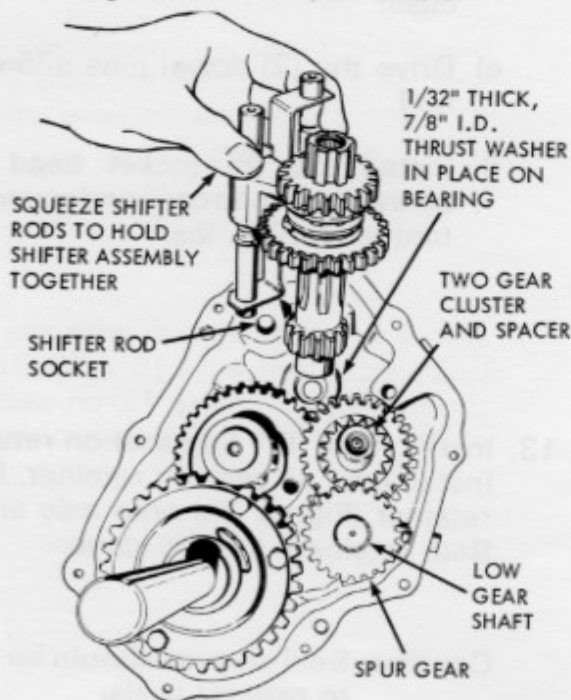

Figure 75 - Spur Gear and Low Speed Shaft
8. Install splined 22-T spur gear (Figure 75) onto low gear idler shaft. Do not install a thrust washer on the exposed end.
9. Center a $1/32'' \times 7/8''$ I.D. thrust washer on shifter shaft bearing (Figure 75) in cover.
NOTE: Install the shifter assembly (Figure 75) with the needle bearing end of the shifter shaft upward.